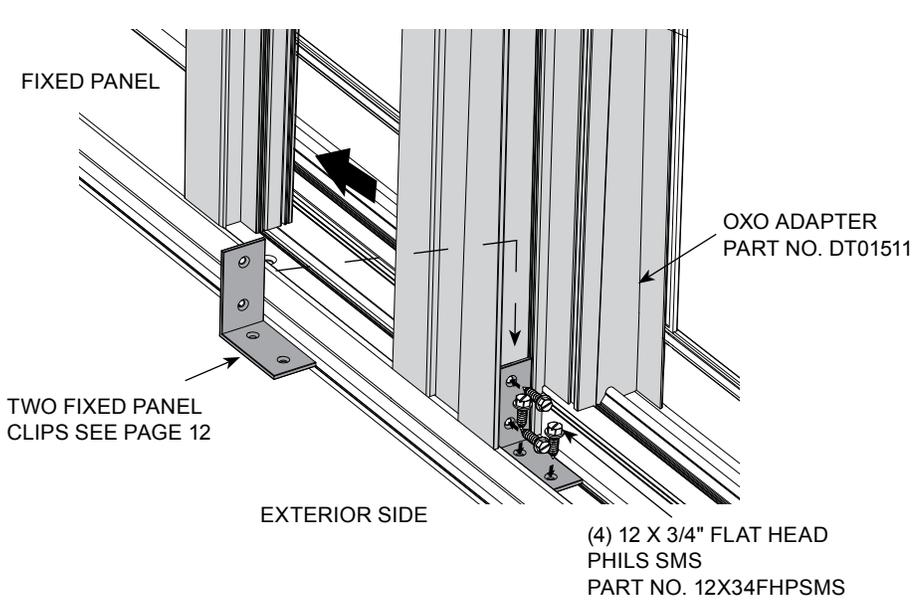

FIG. 51
5. Install clips at top and bottom of OXO adapter. (FIG. 51).